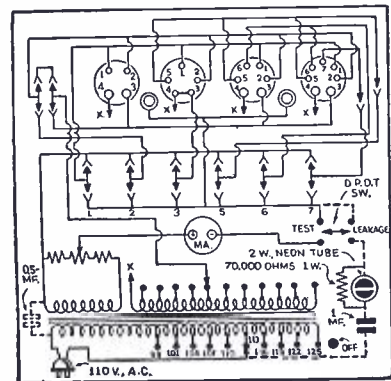

Fig. 4. Neon test for Supreme 35.
**A "Short" Tester for the Supreme 35 Tube Tester.** A "short" tester for testing every element of a tube can be very easily added to a Supreme type 35 tester. This tester originally does not have a short indicator that detects small leakages. The neon lamp added to the unit indicates much smaller leakage or shorts between elements. In Fig. 4, showing the tube tester, the simple changes and additional parts are evident. The short-circuit or test switch must be a toggle double-pole double-throw type, to close a circuit at either throw of the toggle. The tester originally has an extra toggle switch which is removed and replaced by a new one of the correct type. The 2-W. neon lamp can be mounted in the cord compartment. In testing tubes for shorts, after having heated them to operating temperature, the toggle switch is thrown to the short-test position and each element button pressed. If no short exists, a flash or no flash of the neon tube results. But if a short is present, the neon tube will glow continuously.